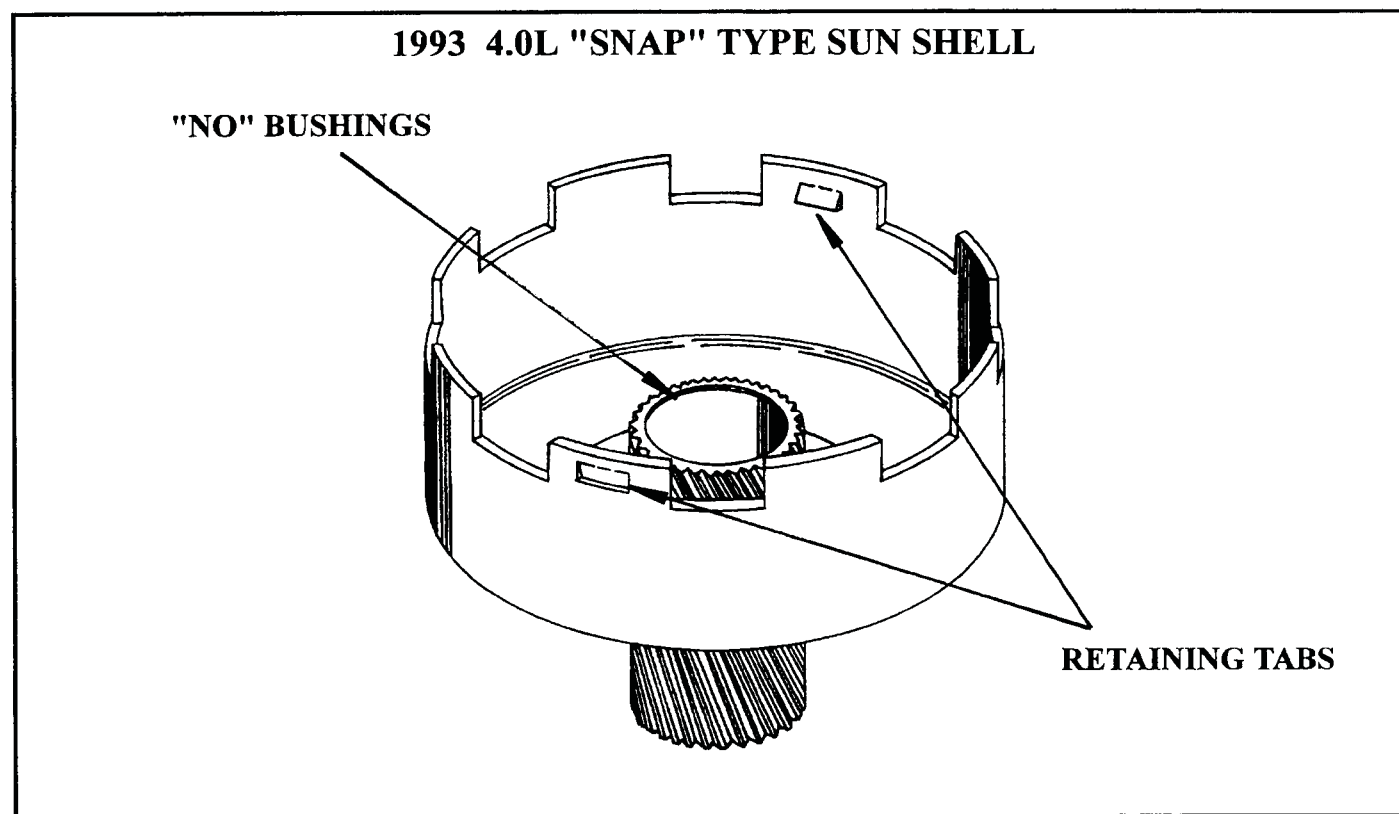

Figure 34
(3) **SUN GEAR SHELL** - "Snap Shell" was introduced in 1993 4.0L models, and has two retaining tabs stamped into the sides 180° apart, as shown in Figure 34. These tabs are used to retain the new direct clutch drum in the sun gear shell. The flat steel thrust washer (No. 14) on the back side of sun gear shell was eliminated when the sun gear bushings were eliminated.